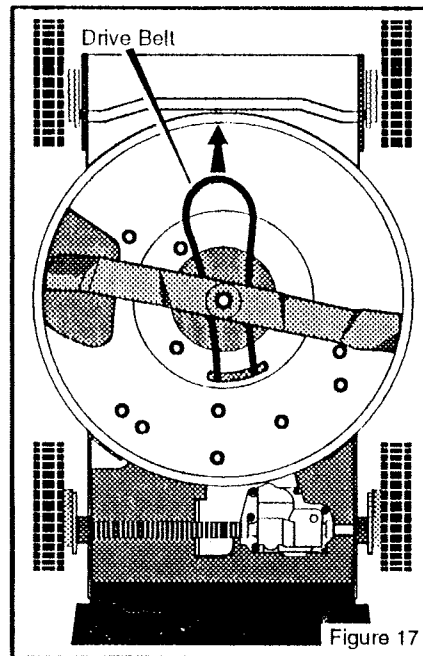

Figure 17
5. Pull the drive belt under the mower housing. (Figure 17).